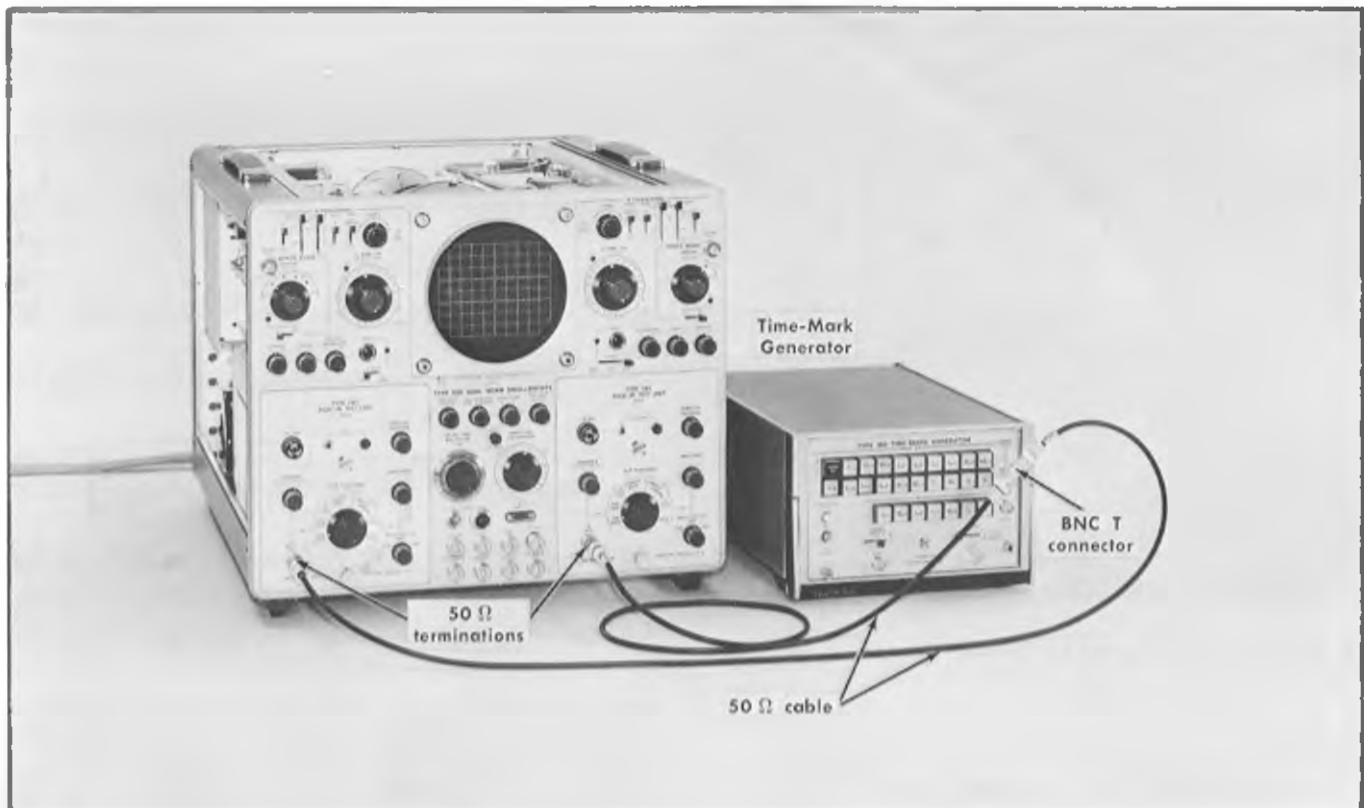

Fig. 6-32. Equipment setup for basic timing procedures—A and B sweeps.
a. Remove the Type 1A1 units and install Test Load units in their place. The test equipment setup is shown in Fig. 6-32